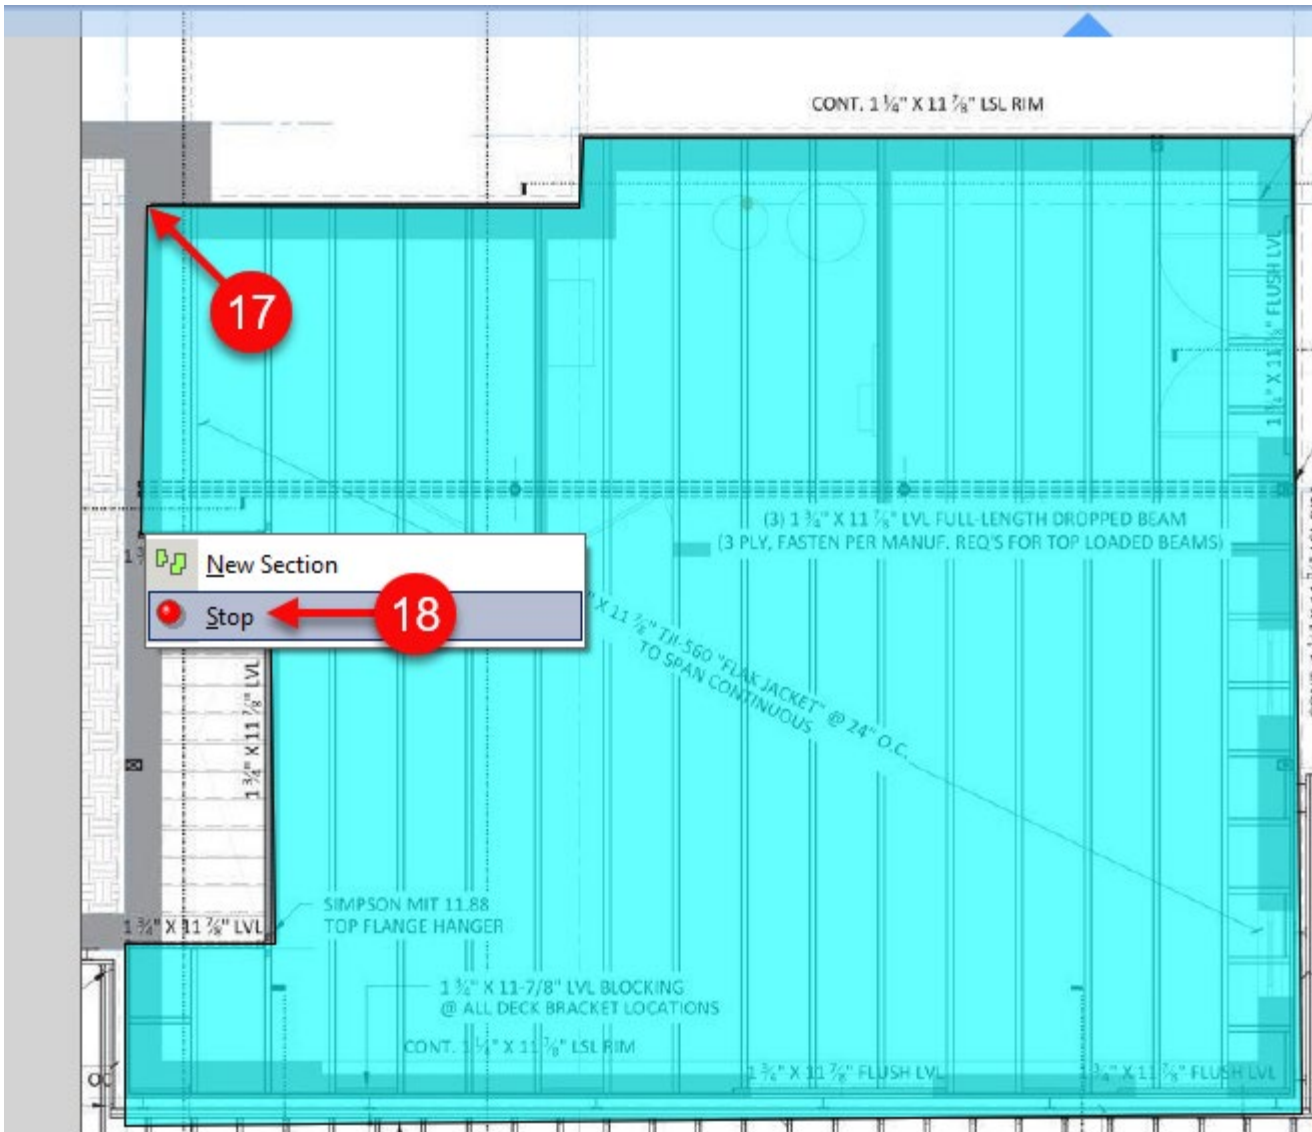

Figure 36-B
19. Click on the completed takeoff to select it, which highlights the takeoff in a red border (Fig. 36-C).